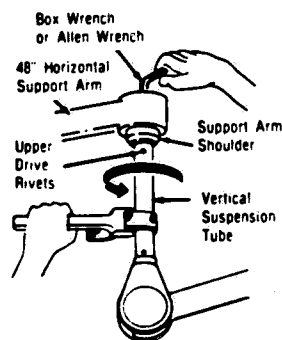

Figure 4-21. UPPER DRIVE RIVET INSPECTION.
a. With strap wrench around the vertical suspension tube, insert a 9/16-inch Allen wrench (or 1-1/2-inch box wrench) in the hex nut of the horizontal support arm pivot, to prevent rotation. (See Figure 4-21) If vertical suspension tube can be rotated, upper drive rivets have not been properly installed. Replace rivets following procedure in this paragraph.